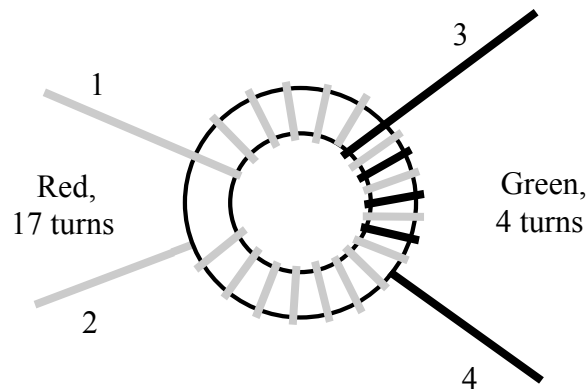

Figure 2
- ❑ Locate the T37-6 core (yellow), which is smaller than the original T50-6 core. It will be used to wind a new T5. As shown in Figure 2, T5 will have two windings, identified as leads 1-2 (red wire) and 3-4 (green wire).
- ❑ Examine the 1-2 winding closely. *As shown in Figure 2, lead #2 must exit from below the core, and lead #1 from above the core.* If this is not the case, remove the wire and correct the winding sense.
- ❑ For the 3-4 winding, use 4 turns of green enamel wire, positioned as in Figure 2. Wind the wire **tightly** against the core. Leave the leads about 1" (2.5 cm) long and do not strip them yet.